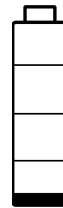

FIG. 3
- B Battery Indicator - When the batteries are fully charged, the battery is completely filled in. As the battery discharges, the amount of battery that is filled declines. When the low battery symbol (FIG. 3) is shown, replace the batteries. See **Battery Replacement**, page 21.